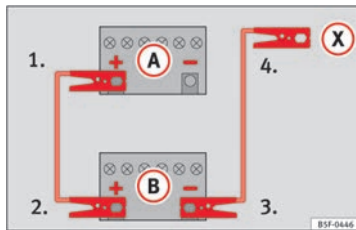

Fig. 189 Diagram of connections for vehicles without Start-Stop system.
2. Connect one end of the *red* jump lead to the positive (+) terminal of the vehicle with the flat battery (A) ⇒ Fig. 189.
3. Connect the other end of the *red* jump lead to the positive terminal (+) in the vehicle providing assistance (B).
4. **For vehicles without Start-Stop system:** connect one end of the *black* jump lead to the negative terminal (-) in the vehicle supplying electricity (B) ⇒ Fig. 189.